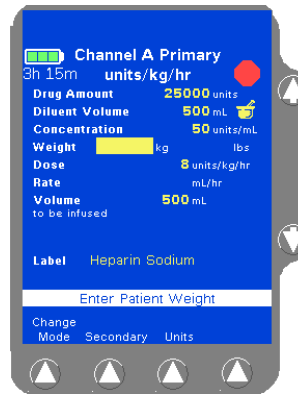

Figure 10 Weight-Based
- For weight-based modes, the **Weight** field is highlighted (Figure 10). If a default dose has been configured, it appears in the **Dose** field.